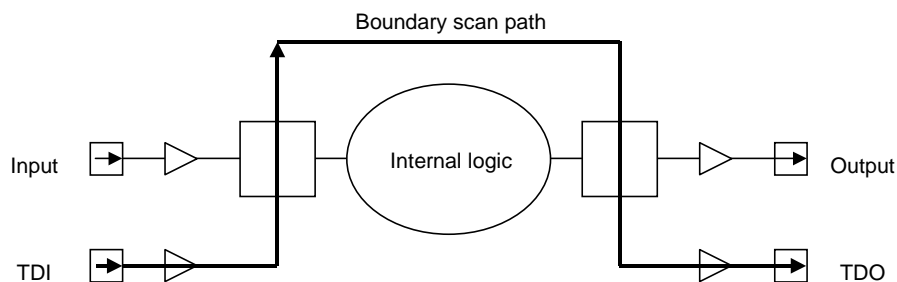

Fig. 23-10 Flow of Test Data While PRELOAD Is Selected
- The PRELOAD instruction is used to initialize the boundary scan register before selecting other instructions. For example, the boundary scan register is initialized using PRELOAD before selecting the EXTEST instruction, as previously explained. PRELOAD shifts data into the boundary scan register without affecting the normal operation of the system logic. Fig. 23-10 shows the flow of data while the PRELOAD instruction is selected.